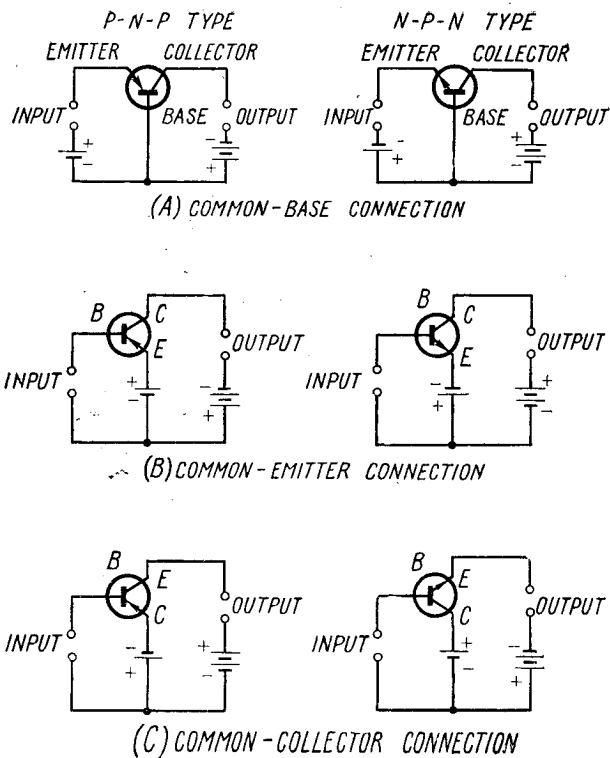

Fig. 16. Transistor amplifier circuit connections
2. When transistors are operated as an amplifier, three different basic circuit connections are possible, as illustrated in Fig. 16. These are (A) common-base,¹ (B) common-emitter,² and (C) common-collector.³ Each of these circuit configurations has specific advantages and limitations.
4. The common-base connection is shown in Fig. 16 (A). We have already become familiar with the common-base connection, since it is convenient for illustrating transistor physics. As we found out, this circuit provides a very low input resistance, and a high output resistance. The common-
5. The common-emitter circuit in Fig. 16 (B) is the most flexible and efficient of the three basic connections. While its input resistance is somewhat higher and its output resistance is lower than that of the common-base connection, the common-emitter connection has the highest voltage and power gain of the three circuits. Like the equivalent vacuum-tube circuit, the common-emitter connection produces a phase reversal between the input and output signals. No such phase reversal occurs with the other two connections.
6. The common-collector connection in Fig. 16 (C) provides a relatively high input resistance, a low output resistance, and about the same current gain as the common-emitter circuit. Its voltage gain, however, is always less